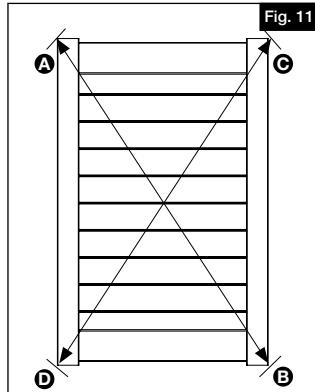

Fig. 11
g. Then, slide Decorative Screen Panel with the channel support into the top of the rail and slide the bottom of the screen in the slit of the mid-rail (Fig. 11).
Ensure gate is square. Measure diagonally from top of left corner rail (A) to bottom of right corner rail (B) and note the length. Then, measure diagonally from top of right corner rail (C) to bottom of left corner rail (D). Note the length. Make sure both measurements are the same before installing screws into uprights (Fig. 11).